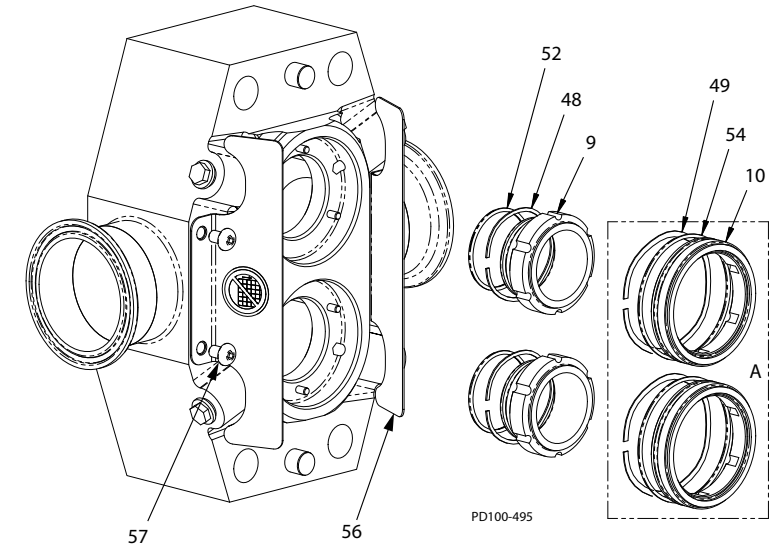

Figure 53 - Shaft Seal Installation
3. Install the inner seal o-ring (Figure 53, item 52) into the inner seal groove and install the wave spring (item 48) onto the body of the inner seals (item 9).
5. Fasten the guards (Figure 53, item 56) to the body with button head screws (item 57).
6. For pumps equipped with double seals (Figure 53, inset A):
Install the outer seal o-ring (Figure 53, item 54) into the groove in the outer seal (item 10).